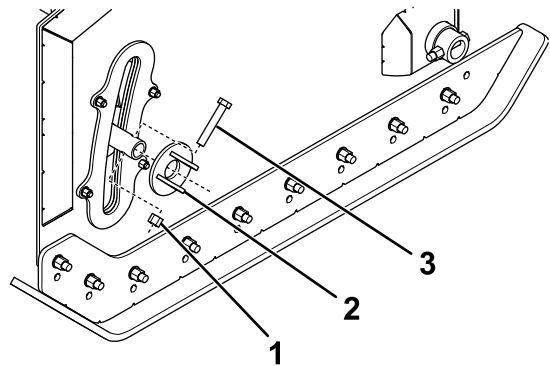

Figure 6
6. On the outside of the plow wing, secure the wing brace bushing to the wing brace using a bolt (3/4 inch) and locknut (Figure 6).